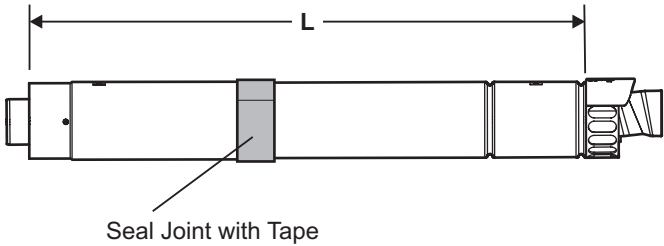

Fig. 4.7
2. Determine the overall length (L) of flue required, (see Fig. 4.7) as follows:-
- Rear flue $L = \text{wall thickness (B)} + 60 \text{ mm (105 mm if the wall jig is used)}$
- Side flue $L = \text{wall thickness (B)} + \text{distance between boiler and wall (C)} + 145 \text{ mm}$